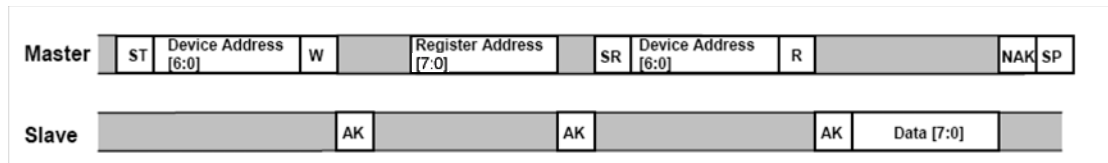

Figure 6. Single Byte Read - The Master is reading one address from the MMA7455L
The MMA7455L has a 10-bit ADC that can sample, convert and return sensor data on request. The transmission of an 8-bit command begins on the falling edge of SCL. After the eight clock cycles are used to send the command, note that the data returned is sent with the MSB first once the data is received. Figure 6 shows the timing diagram for the accelerometer 8-bit I²C read operation. The Master (or MCU) transmits a start condition (ST) to the MMA7455L, slave address (\$1D), with the R/W bit set to "0" for a write, and the MMA7455L sends an acknowledgement. Then the Master (or MCU) transmits the 10-bit address of the register to read and the MMA7455L sends an acknowledgement. The Master (or MCU) transmits a repeated start condition (SR) and then addresses the MMA7455L (\$1D) with the R/W bit set to "1" for a read from the previously selected register. The Slave then acknowledges and transmits the data from the requested register. The Master does not acknowledge (NAK) it received the transmitted data, but transmits a stop condition to end the data transfer.